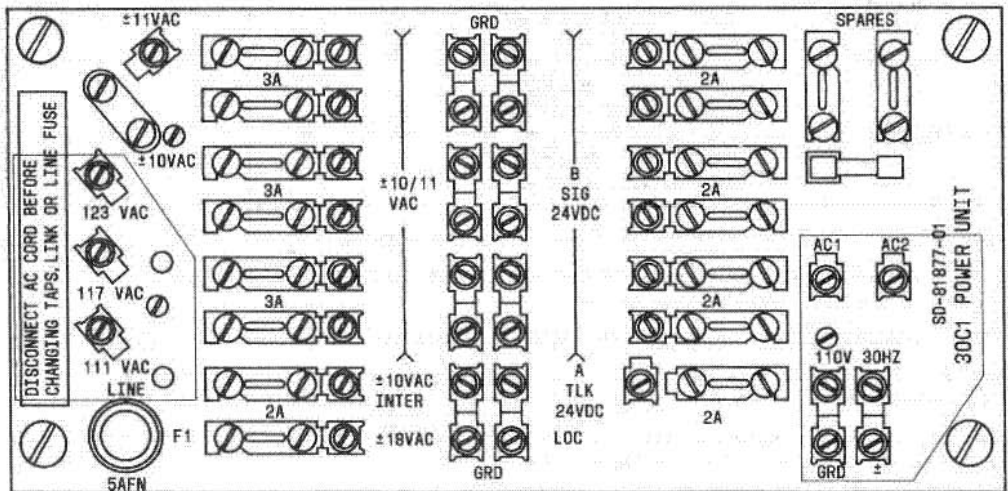

Fig. 4—Wiring Connections For 29B1, 29C1, 30B1, and 30C1 Power Units
**4.01** The instructions that follow are for connecting the 30B1 (Fig. 4) and 30C1 power units to associated telephone equipment. With the exception of connections to the 113A or 117A frequency generators, rated MD, or the 117B frequency generator, the instructions also apply to the 29B1, 29C1, and 29E1 (Fig. 5) units.
**4.05** Connect ground terminals, station key equipment, and lamp wiring to the appropriate supply terminals as marked on the panel. See Fig. 4 or 5.